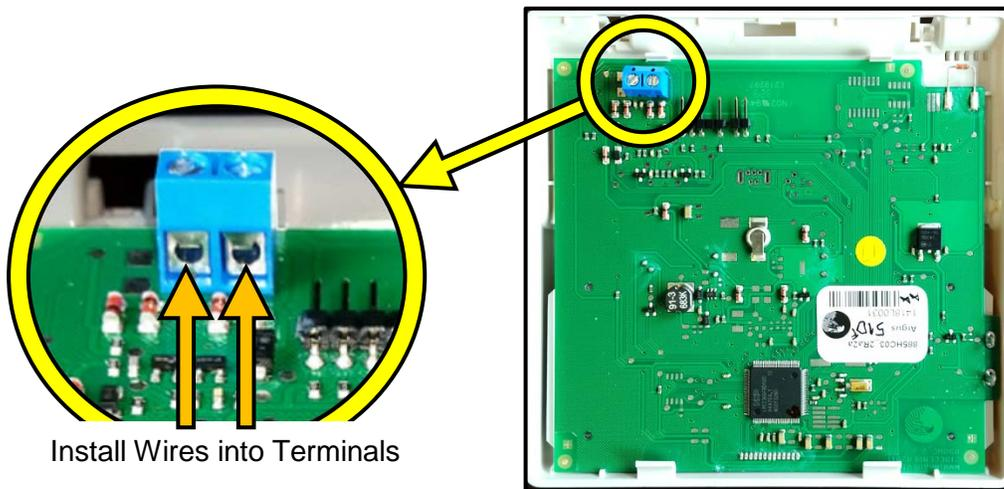

Figure 1-5: Connecting Wires to the Cascade Sequencer Terminals
2. Connect two wires, each two feet (0.5m) long, to the two screw terminals on the Cascade Sequencer PCB, as shown in Figure 1-5. Wires do not have polarity.